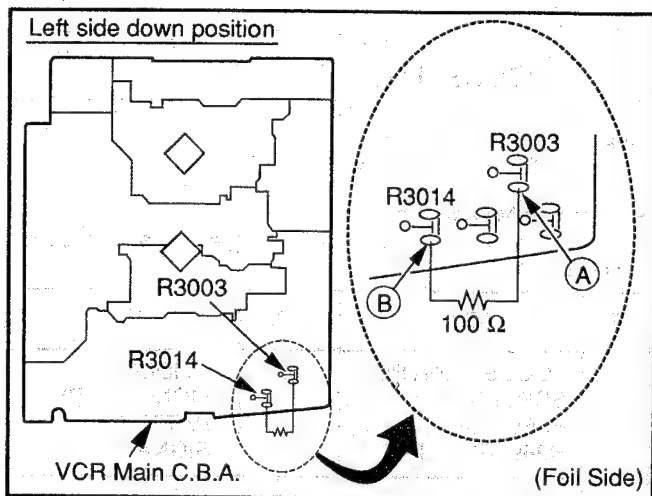

Fig. E7-1
Connect point (A) and +5V (point (B)) with 100Ω resistor as shown in Fig. E7-1.